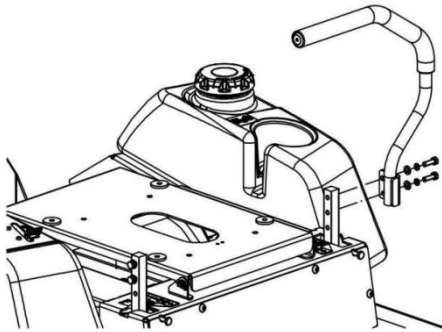

Fig. 4
2. Place the lever on the outside of the control arm shaft and secure with bolts and washers (Refer to Fig. 4),tighten until snug. Repeat on opposite side of unit.